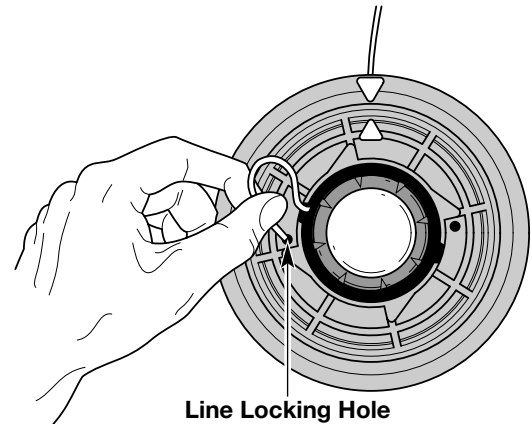

Fig. 10
5. Insert the line into the locking hole (Fig. 10). Do not push the line more than 1/2 inch (12.7 mm) into the line locking hole. When inserted correctly the line will form a small loop (Fig. 10).